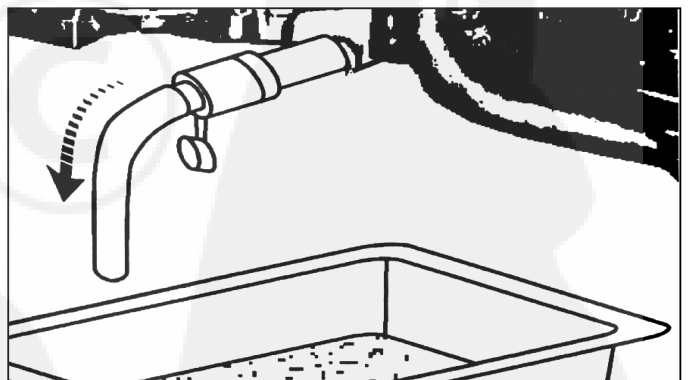

Fig.24
1. Place a flat bottom 2 litre container beneath the oil drain valve (Fig.24).